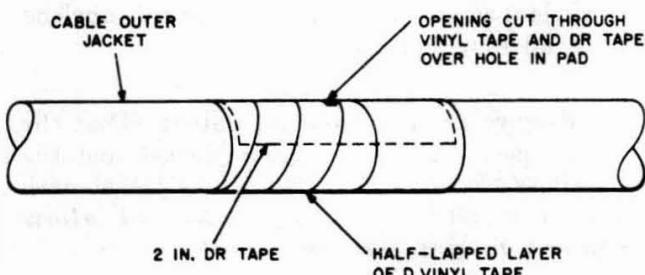
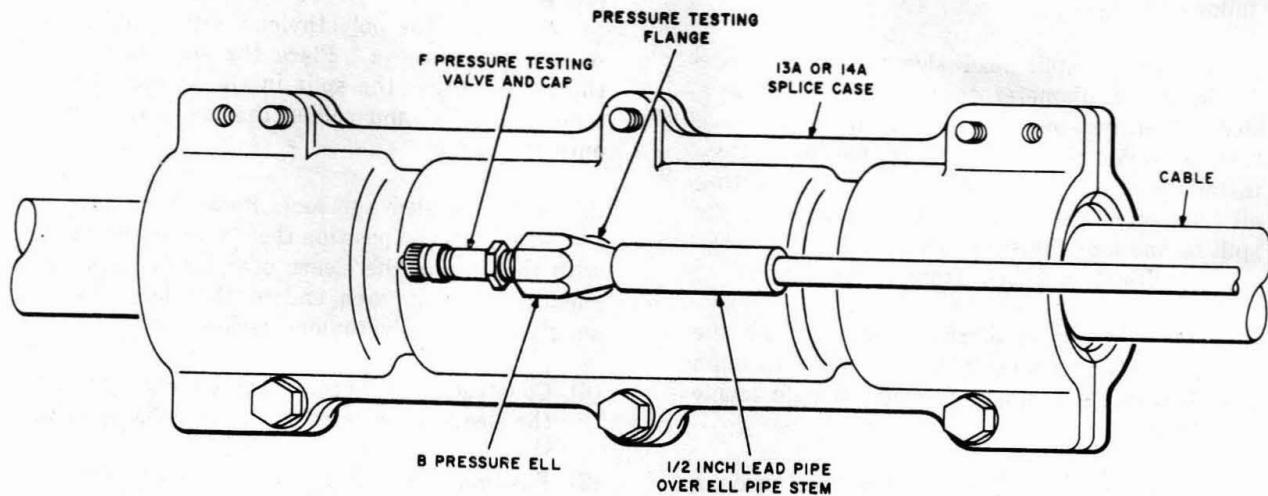

Fig. 15—Insulating Pad Wrapped
Fig. 16—Splice Case With B Pressure E11 and F Pressure Testing Valve Installed
(8) Cut a strip of 2-inch DR tape to cover this area. Cut a small hole in the DR tape. Place this strip of DR tape so the hole coincides with the 1/4-inch hole in the pad and press firmly in place.
(9) Place an orange stick into the hole and leave the stick in place; then, wrap with a half-lapped layer of vinyl tape (Fig. 15)
(10) Follow the procedure outlined in paragraph 4.04 (6) through (13) to complete the installation.
- (1) Follow the procedures outlined in paragraph 4.05 (1) through (8) to prepare the sheath for splice case installation.
- (2) Place an orange stick into the hole; then, wrap with a half-lapped layer of vinyl tape (Fig. 15). Remove the orange stick after wrapping.
- (3) Place the splice case on the cable as described in Section 633-470-100.
- (4) To place the B pressure ell in the 13A or 14A splice case, coat the threads of the ell with teflon pipe sealing tape. Screw the ell into the pressure testing flange on the splice case. Before pressurizing the splice case, solder the lead pipe to the ell pipe stem and place the F pressure testing valve in the ell (Fig. 16).
- (1) Follow the procedures outlined in paragraph 4.05 (1) through (8) to prepare the sheath for split sleeve installation.
- (3) Place the split sleeve and complete the installation as described in paragraph 4.08 (4) through (7).